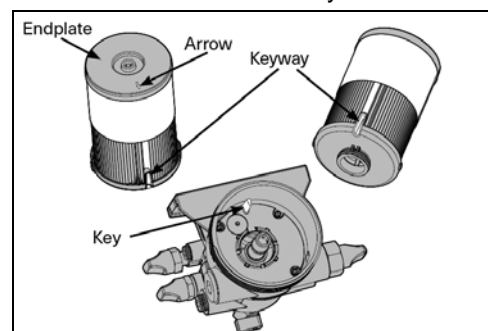

FIGURE 8: KEYWAY ON FUEL PRO 386 FILTER ONLY
- FUEL PRO 386: Position the filter element so the key is lined up with the keyway on the separator plate of the housing (Figure 8). Use the arrow on the top of the endplate to align the filter. Ensure the filter element is fully seated by firmly pushing on the endplate. The filter should not rotate freely.